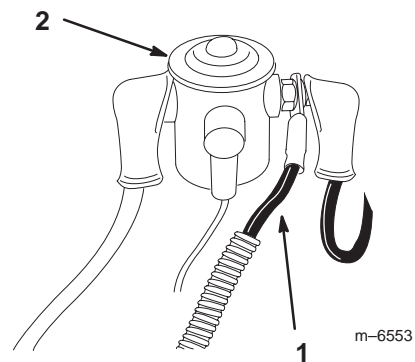

Figure 6
12. Connect the red power wire to the left side of the solenoid (Fig. 6), located under the seat.